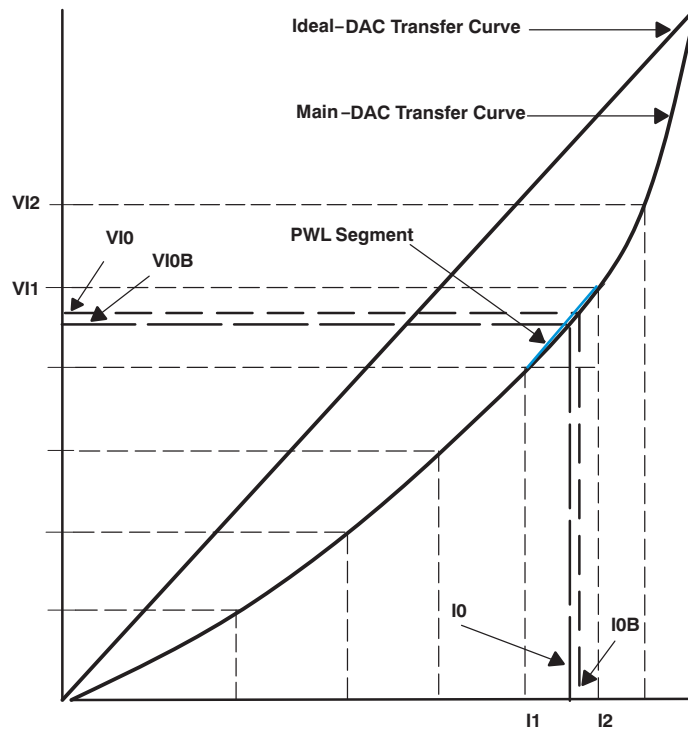

Figure 21. The Geometry Behind the PWL Calibration
- The 6 LSBs of the user data D0 with two variables I1 and I2 are used for computing Equation 1 (See Figure 21).